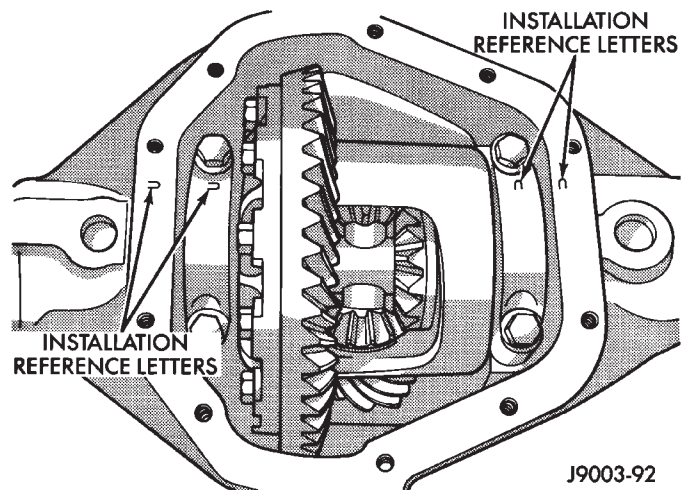

Fig. 10 Bearing Cap Identification
(1) Remove axle shafts.
(2) Note the orientation of the installation reference letters stamped on the bearing caps and housing machined sealing surface (Fig. 10).